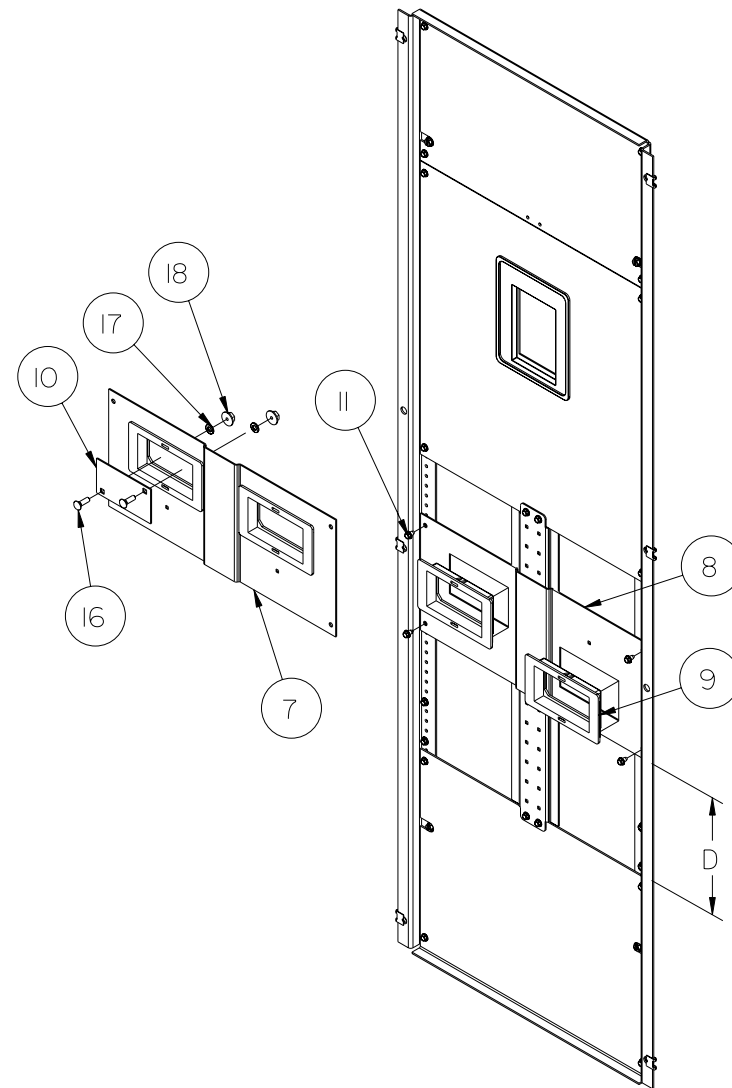

Figure 4
10. Refer to Fig. 4 - Identify the dead front area that will cover the 6" kit unit space. Measure the unit space locating dimension D directly from the dead front end plate, as shown.
11. Remove any full width plate covering the area for the kit unit space. Fasten the Type A dead front plate (item 7) for single phase panels, or the Type B dead front plate (item 8) for 3-phase panels, with four 8-32 screws (item 11). Insert the two QJ dead front adaptors into the plate cut-outs and snap them into place.
12. For applications where only one breaker is installed, insert the provision filler plate (item 10) into the recess in the QJ adaptor covering the unused mounting location. Insert two carriage bolts (item 16) into the holes in the corners of the filler. On the rear of the adaptors, place a flat washer (item 17) and then a nut (item 18) on the screws. Tighten the nuts to the torque values on the back of the dead front.